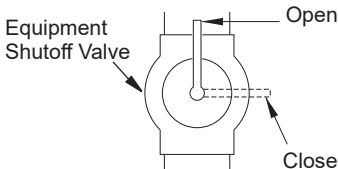

Figure 17 - Equipment Shutoff Valve
IMPORTANT: Install an equipment shutoff valve (see figure 17, page 18) in an accessible location. The equipment shutoff valve is for turning on or shutting off the gas to the appliance.
1. Close equipment shutoff valve (see Figure 17).
1. Open equipment shutoff valve (see Figure 17, page 18).